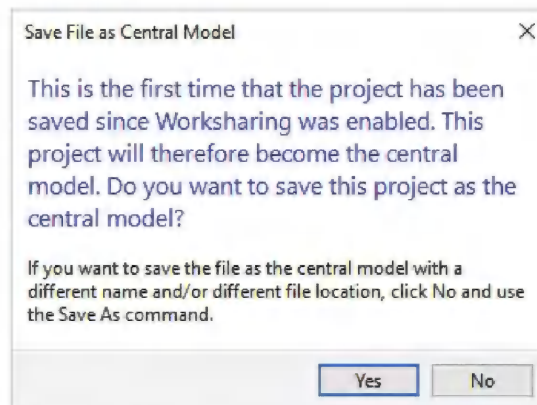

FIGURE 16-2.4 Worksharing related notice
- Click **Yes** (Figure 16-2.4)